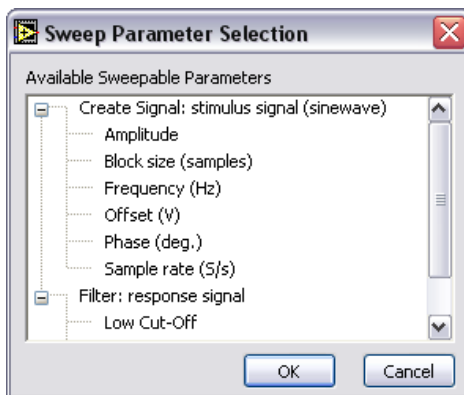

Figure 5-1. Sweep Parameter Selection Dialog Box
4. Click the **Add** button in the **Step Setup** dialog box to display the list of sweep parameters from each step in the project, as shown in Figure 5-1.